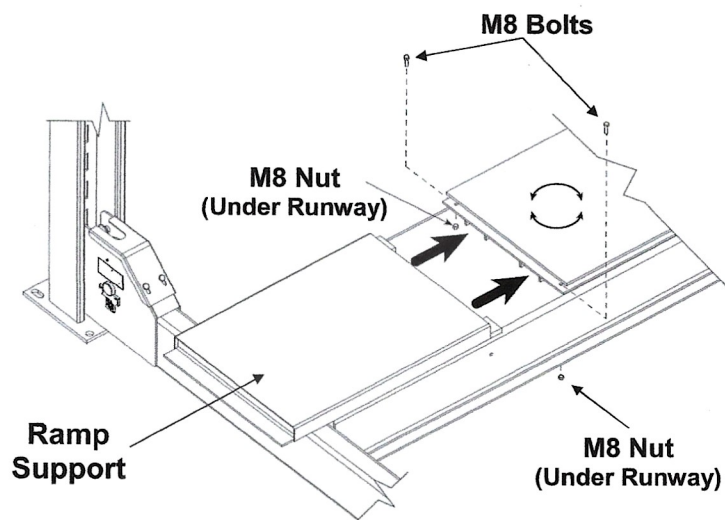

Fig. 7
- 9) Position and slide the Ramp Support (#7) Tabs under the rear of the Slip Plate. Access the rear Slip Plate holes by angling the rear of the Slip Plate. Align the rear Slip Plate holes to the Tab Holes for the Ramp Support & Runway, secure using M8 Bolts & Nuts - Fig. 7.